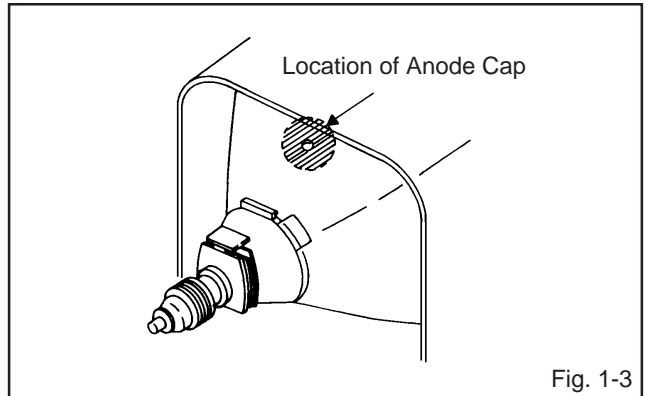

Fig. 1-3
1. Clean the spot where the cap was located with a small amount of alcohol. **(Refer to Fig. 1-3)**